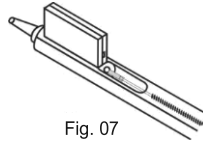

Fig. 07
7. Load the cartridge into the injector as shown in Fig .07 only if there is no gap between the shutters.